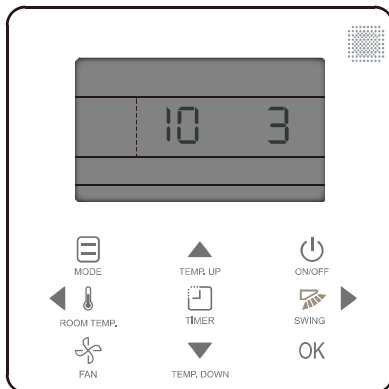

Fig. 16 —Setting 1G and 2G Codes
2. Press ROOM TEMP/SWING to select the 1G code to 10, and press TEMP UP/TEMP DOWN to select the 2G code to 3 (0.12 in WC) as shown in Fig 16.